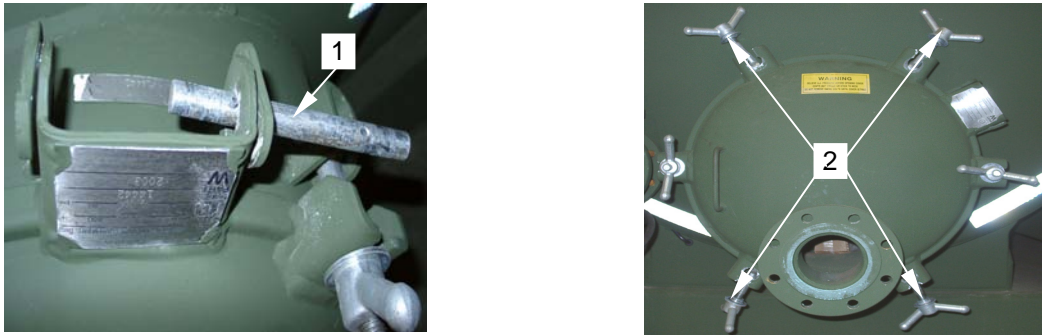

Figure 4. Replacing Gasket and Closing Manway
3. Remove and retain the hinge pin (**figure 4, item 1**).
4. Loosen and remove the top two and bottom two swing bolt assemblies (**figure 4, item 2**) off cover.